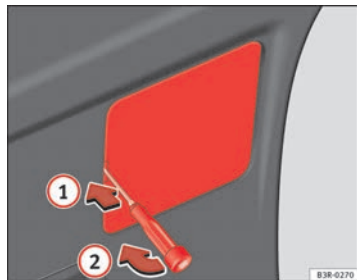

Fig. 234 Remove the cover of the tailgate trim
- Insert the screwdriver into the opening in the cover ⇒ fig. 234 ① and detach the cover ②.